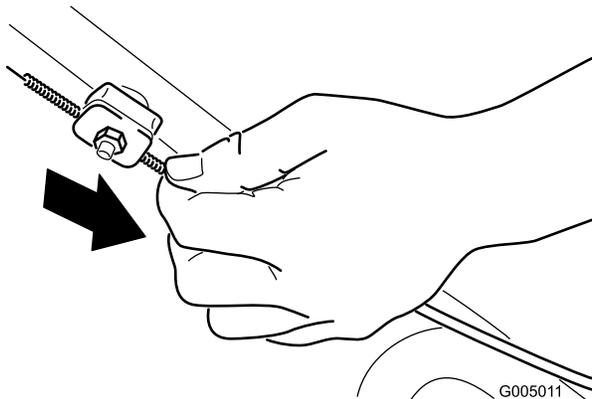

Figure 22
2. Pull down the cable jacket (toward the mower) until there is no slack in the cable (Figure 22).